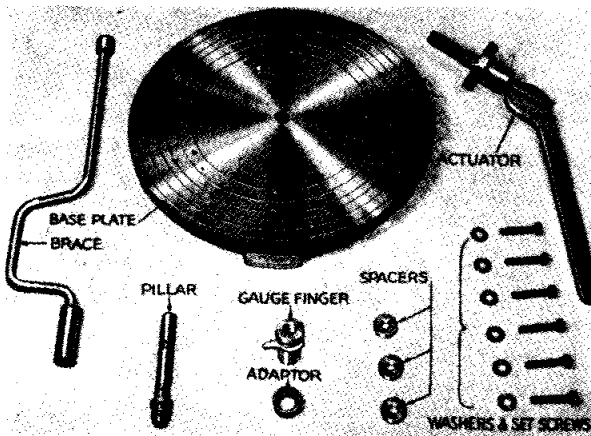

Fig. 7 Clutch Assembly Fixture (Churchill Tool No. 99A) as used with 9" clutch.
26. DISMANTLING THE COVER AS- SEMBLY USING THE CHURCHILL FIXTURE No. 99A (Fig. 7)